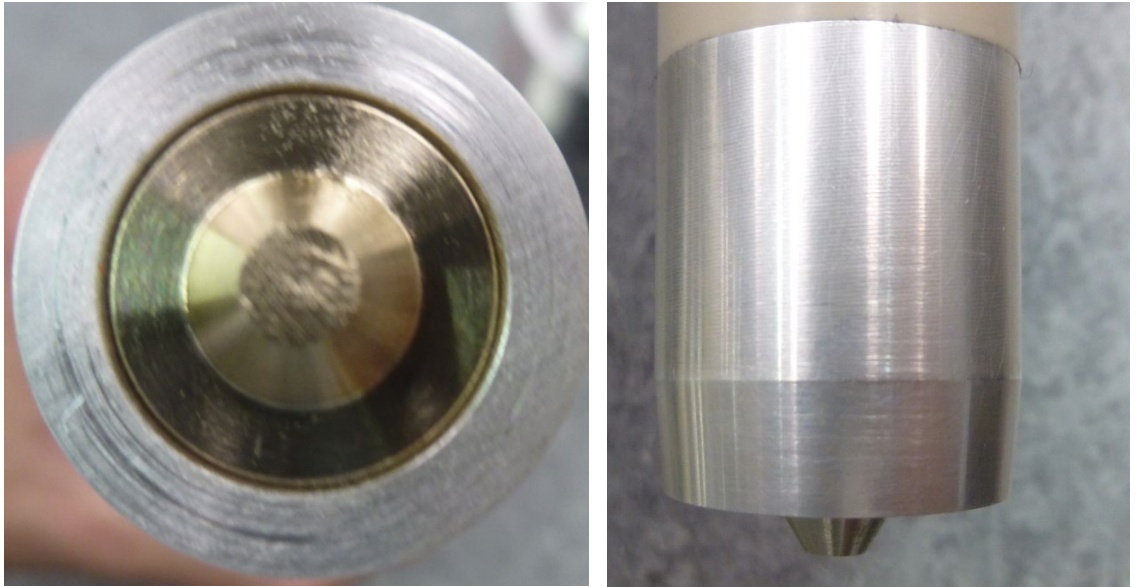

Figure 34 - Receptacle pin contact area with no damage
- There should be no damage present on the receptacle contact area and receptacle shroud Multilam. (See figure 34)